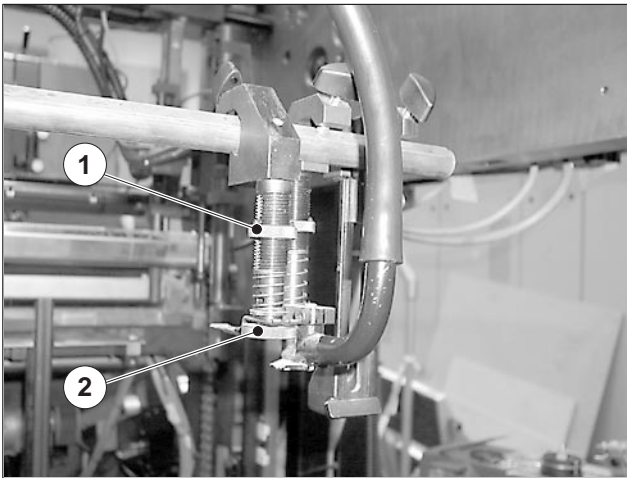

Fig. 27 Sheet separator finger – outer carrier air blower
1. Loosen the knurled head screw (Fig. 27/2).
3. Manually tighten the knurled head screw (Fig. 27/2).
1. Adjust the height of the sheet separator finger at the knurled nut (Fig. 27/1).
4. Manually tighten the knurled head screw (Fig. 27/2).